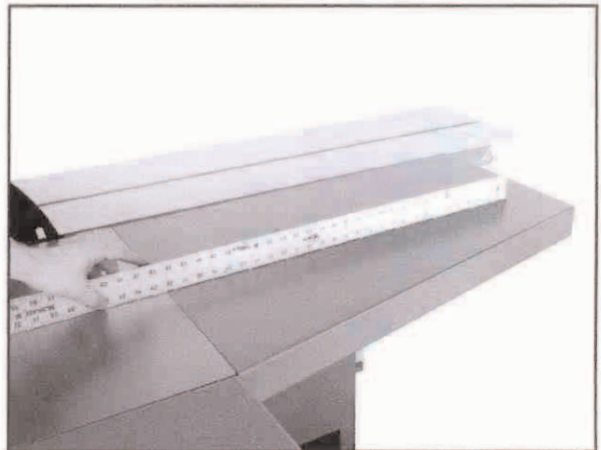

Figure 22. Checking with a straightedge.
5. Check the table surfaces with a straightedge, as shown in **Figure 22**, to ensure that they are flush and even with each other.